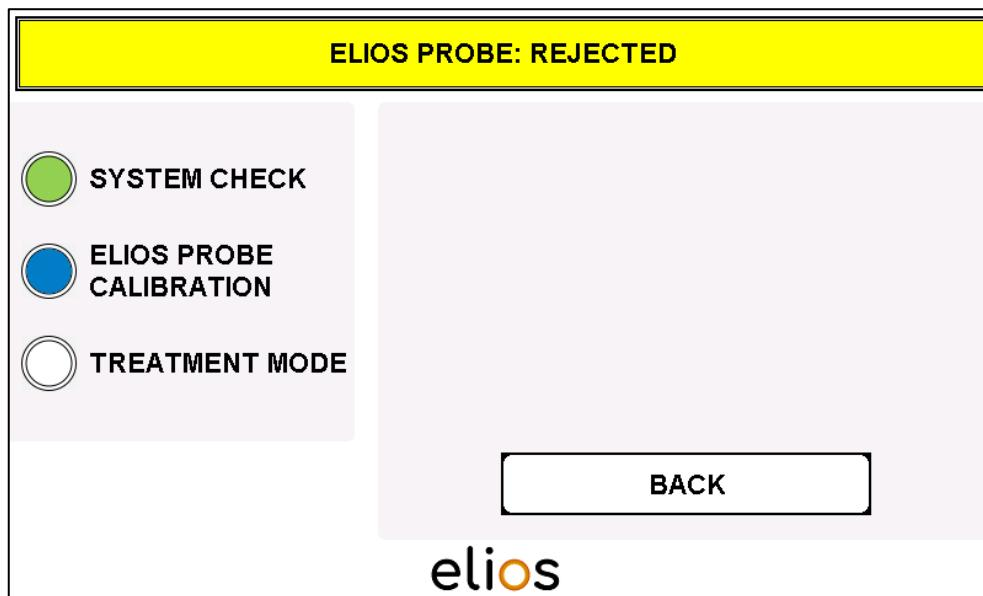

Fig. 4-8: Fiber recognition – ELIOS PROBE: REJECTED
- The software recognizes already used and resterilized fibers and prevents their use. The notification "**ELIOS PROBE: REJECTED**" is shown and it is not possible to continue in the program (Fig. 4-8).
- The previous menu is reached again by pressing “**BACK**” (Fig. 4-8).